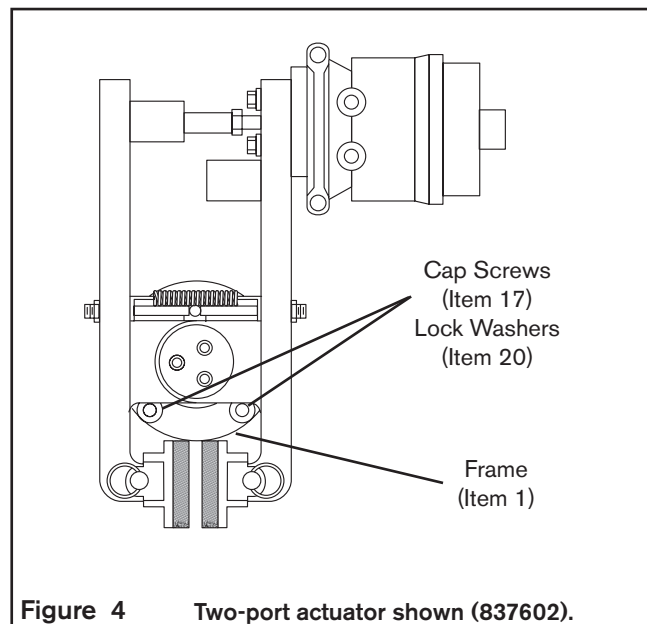

Figure 4 Two-port actuator shown (837602).
4. Tighten the Cap Screws (Item 17) and the Lock Washers (Item 20) to 67.8 Nm [50 ft-lb] torque (See Figure 4).